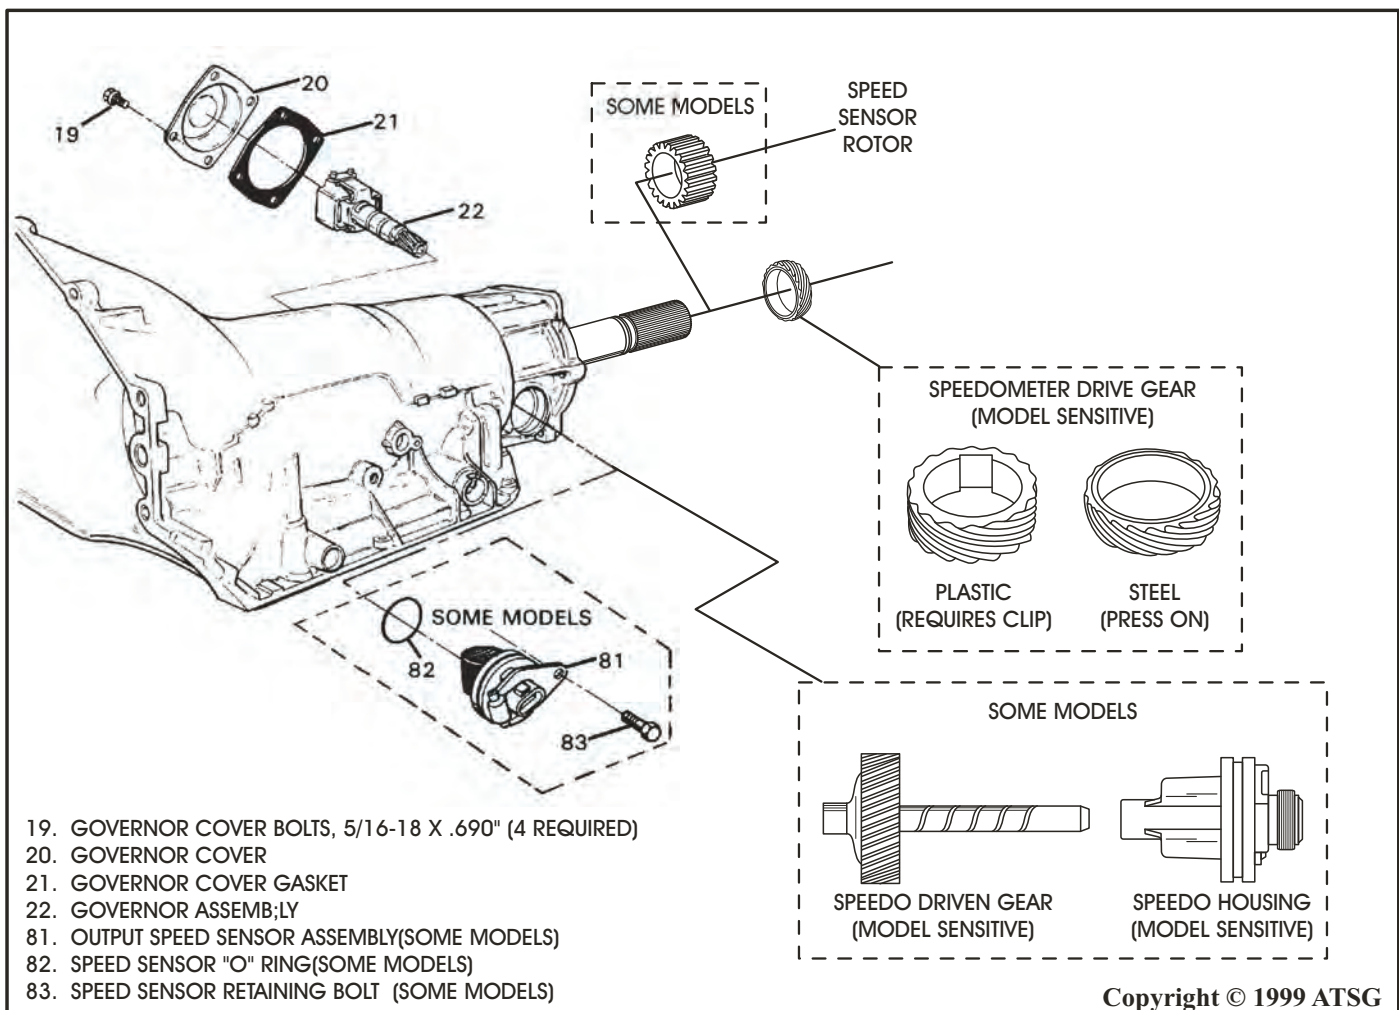

Figure 129
73. Install the governor assembly into case bore by rotating into position (See Figure 129).
74. Install the governor cover with a new gasket as shown in Figure 129, and torque the 4 bolts to 14 Nm (125 in.lb.).
75. Install the proper speed drive gear or speed sensor rotor onto the output shaft if it has not been previously installed (See Figure 129).
76. Install the speed sensor or the speedometer drive gear and adapter and torque the retaining bolt to 7 Nm (62 in.lb.) (See Figure 129).